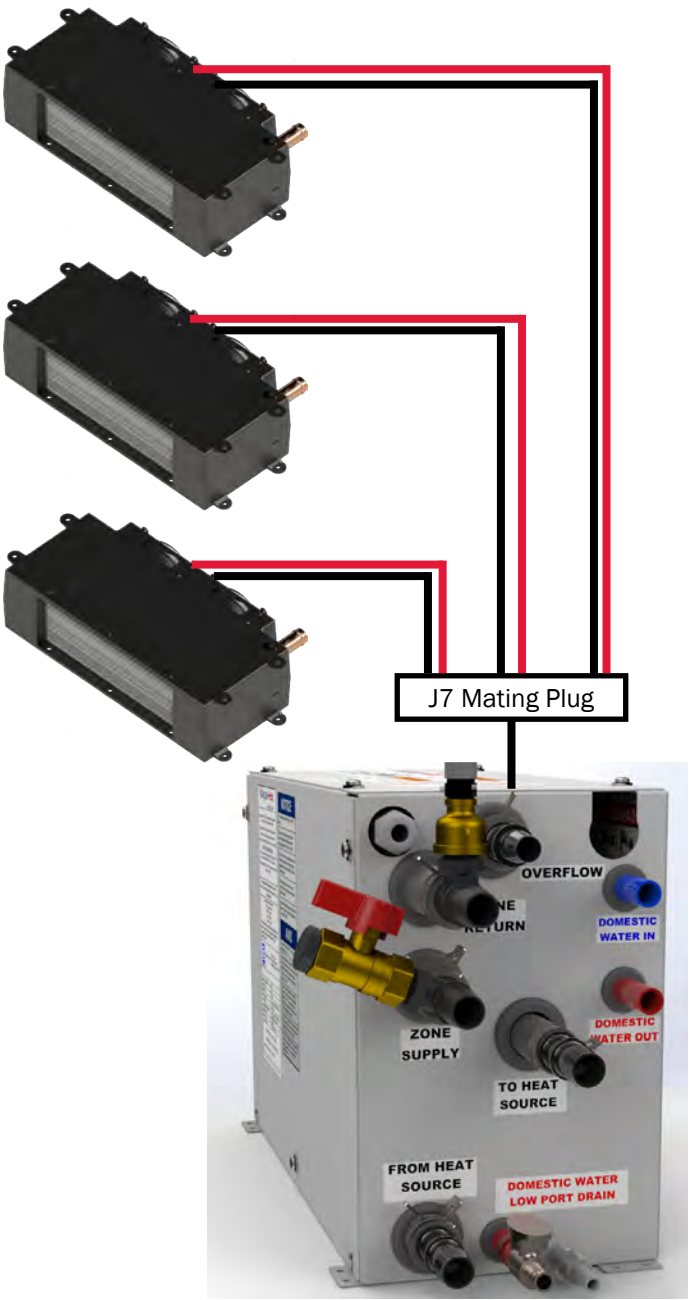

Figure 67
- 1. Wire each heat exchanger (in a thermostatic zone) in parallel to one another as shown in Figure 67.